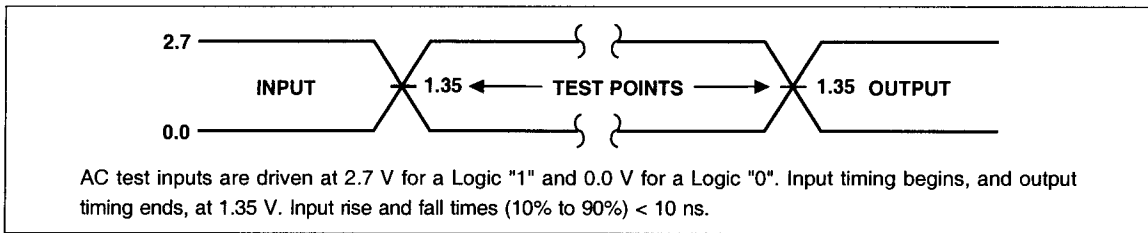

Fig. 9 Transient Input/Output Reference Waveform for VCC = 2.7 to 3.6 V
1. See AC Input/Output Reference Waveform (Fig. 9 through Fig. 11) for maximum allowable input slew rate.